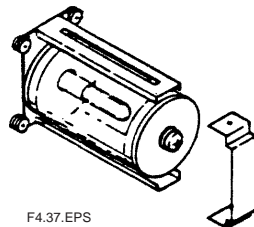

Figure 4.37
10. Inspect the cell thoroughly for damage (breaks, cracks, etc.) before replacing the retaining fixture. (Figure 4.37)